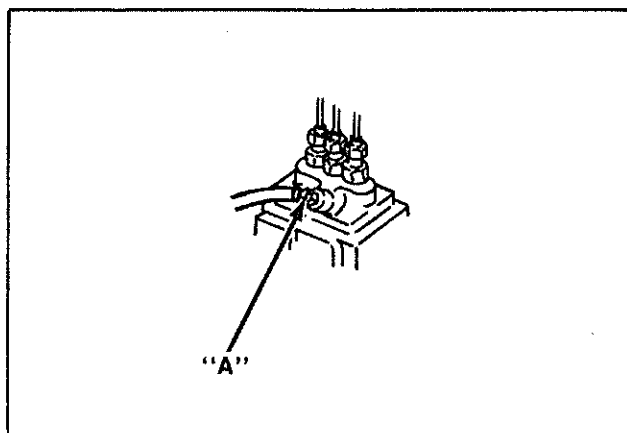

Figure 4-8
1. Loosen air vent screw (A) Figure 4-8.
2. Place ignition key to the ON position. The fuel pump will now pump fuel through the system. When fuel runs out of air vent (A) reinstall screw.